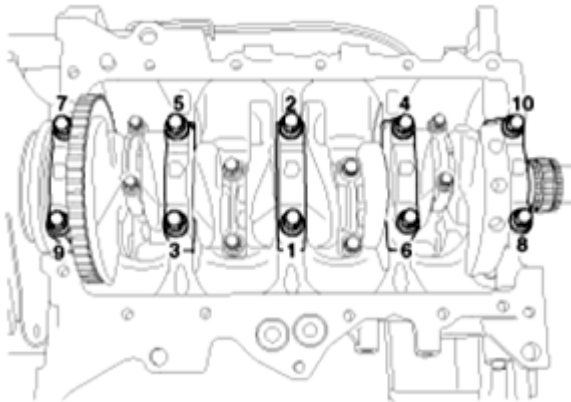

Fig. 34: Identifying Tightening Sequence Of Bearing Cap Bolts
2. Install and uniformly tighten the 10 bearing cap bolts, in several passes, in the sequence shown in **Fig. 34**.